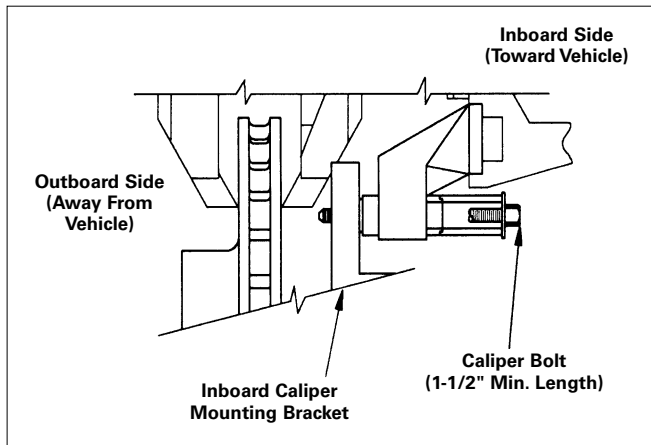

Figure 6
2. The vehicle's caliper bolts can be used to mount the lathe if the holes in the steering knuckle or caliper mounting bracket are threaded and on the inboard side of the rotor, Fig. 6. Also, the vehicle's caliper bolts should be 1-1/2" in length or longer. Otherwise, the mounting bolts and nut plates provided in the hardware package will be needed.